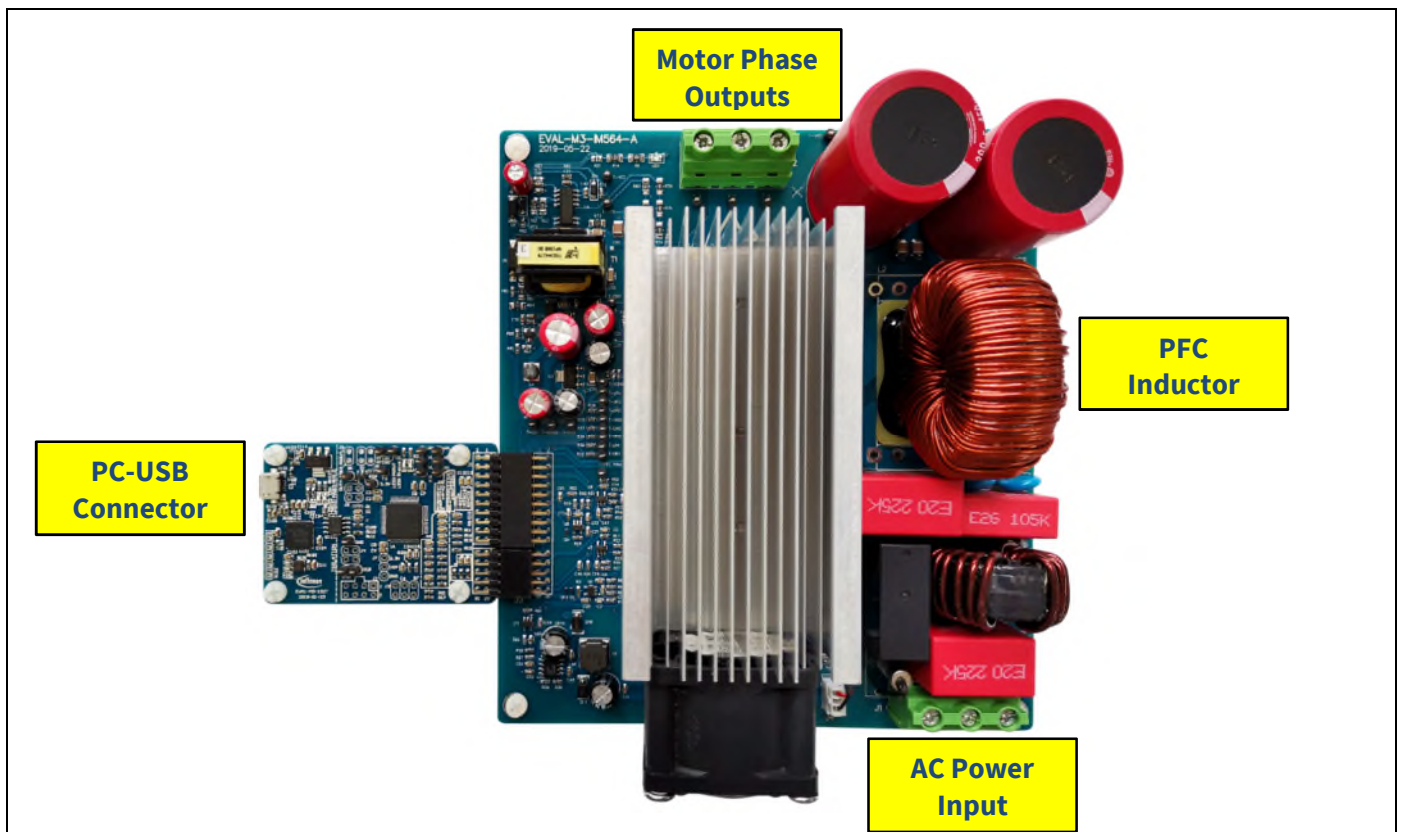

Figure 4 **System connection example using EVAL-M3-IM564**
Figure 4 shows the system connection using EVAL-M3-IM564 and control board (used control board EVAL-M3-102T for example).
2. Connect EVAL-M3-IM564's MADK M3 30-pin interface connector (J3) to control board (see Figure 4).